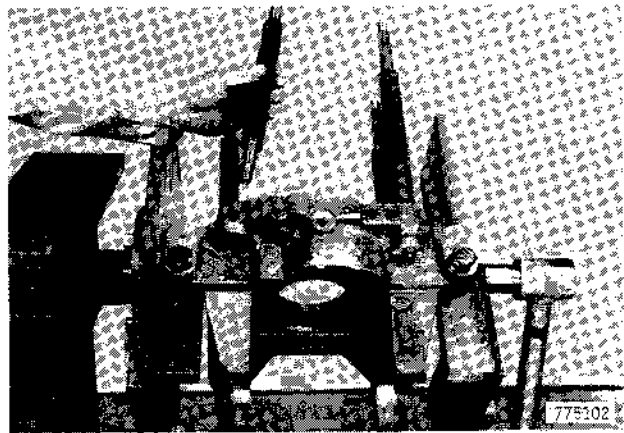

Figure 106
48. Remove the two tie bolts that were retained by self-locking nuts, Figure 106.